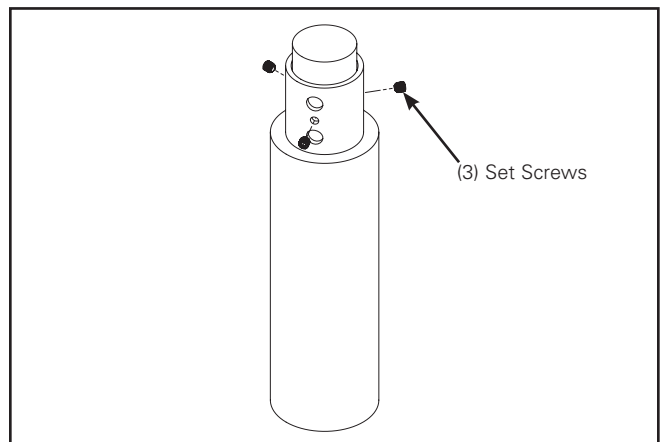

Figure 7.
2. Install three, 3/8-16 UNC set screws into tenon sleeve by hand. (Figure 7.)
3. Tighten all three 3/8-16 UNC set screws to 180 in-lbs. (Figure 7.)